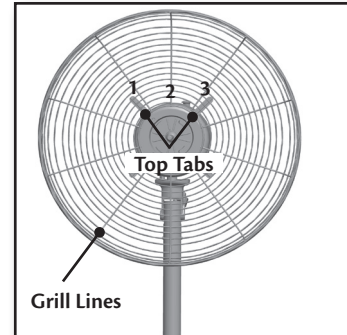

Figure 9
2. Make sure that the grill is positioned so that three of the grill lines are completely between the top tabs. Then place the Back Grill against the Motor Housing, Figure 9., and line up the four tabs on the back of the grill to the four screw holes on the front of the motor.